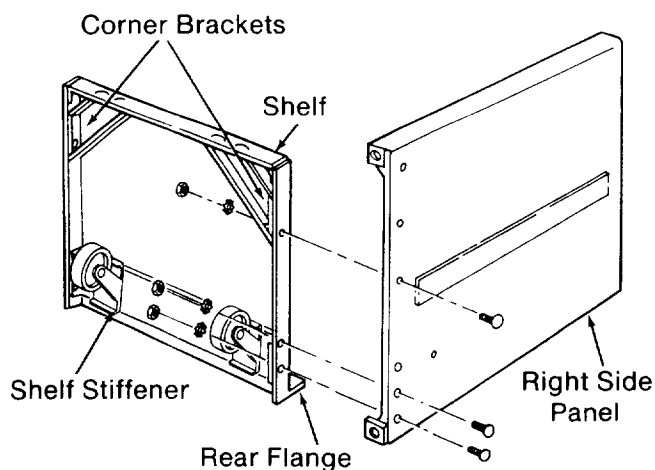

Fig. 20
17. Place the *right side panel* on the right side of the *shelf*. The *spacer* should be on the inside of the cabinet. (Figure 20)
18. Put truss head bolts through the three holes along the bottom edge of the *right side panel*. Put a lockwasher and hex nut on each bolt and tighten using a 7/16 inch wrench or socket. (Figure 20)